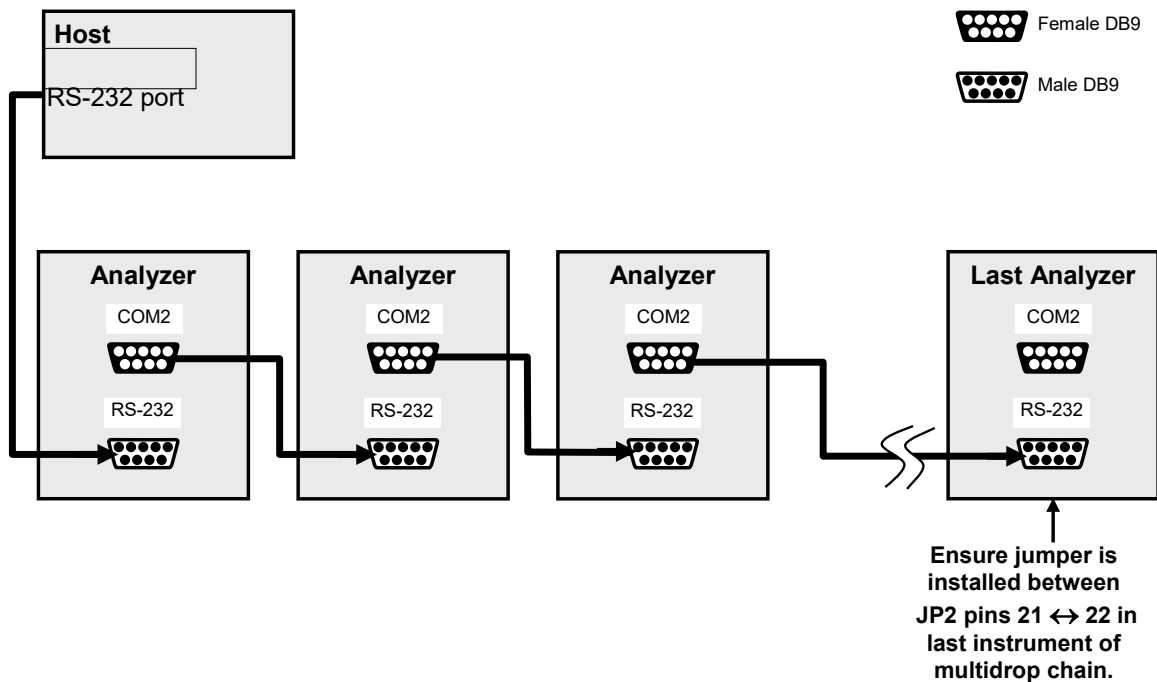

Figure 2-15. RS-232-Multidrop PCA Host/Analyzer Interconnect Diagram
5. Referring to Figure 2-15 use straight-through DB9 male → DB9 female cables to interconnect the host RS232 port to the first analyzer's RS232 port; then from the first analyzer's COM2 port to the second analyzer's RS232 port; from the second analyzer's COM2 port to the third analyzer's RS232 port, etc., connecting in this fashion up to eight analyzers, subject to the distance limitations of the RS-232 standard.